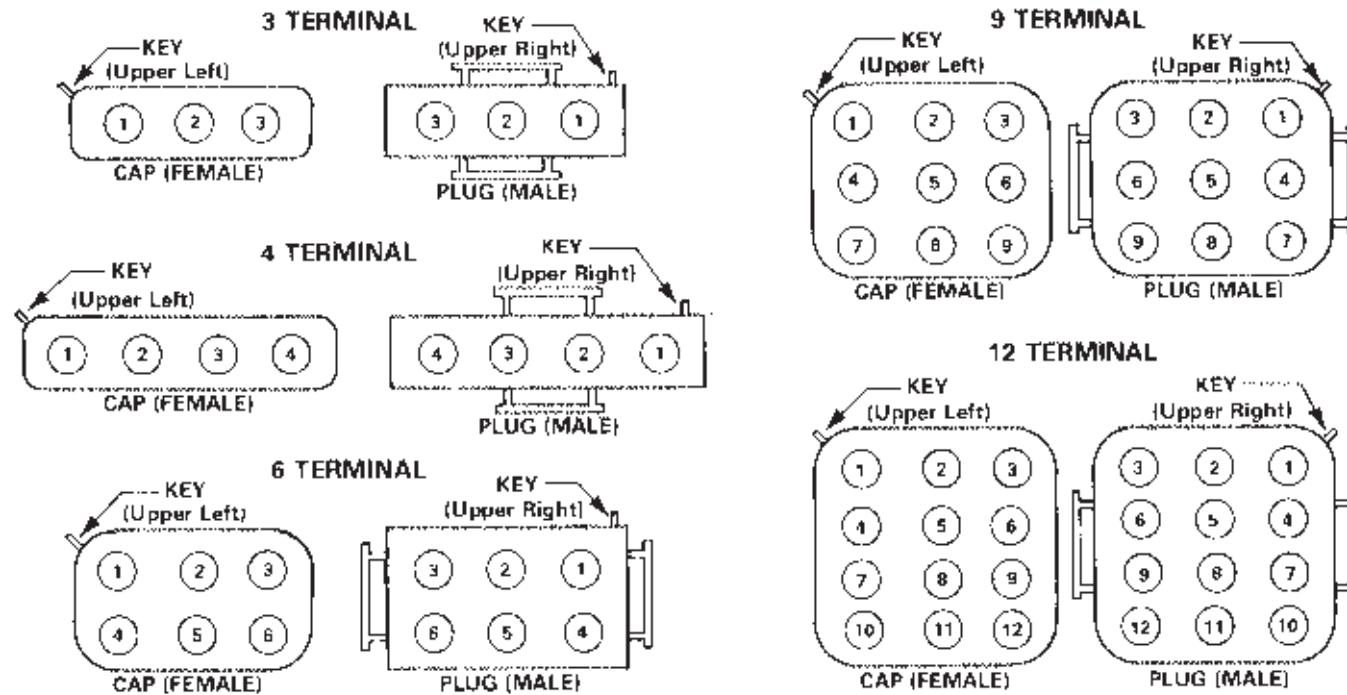

FIGURE 23
- Terminal numbers on jack plugs are located by a ridge on the corner of the plug called the "Key." Refer to Figure 23 for proper numbering sequence.